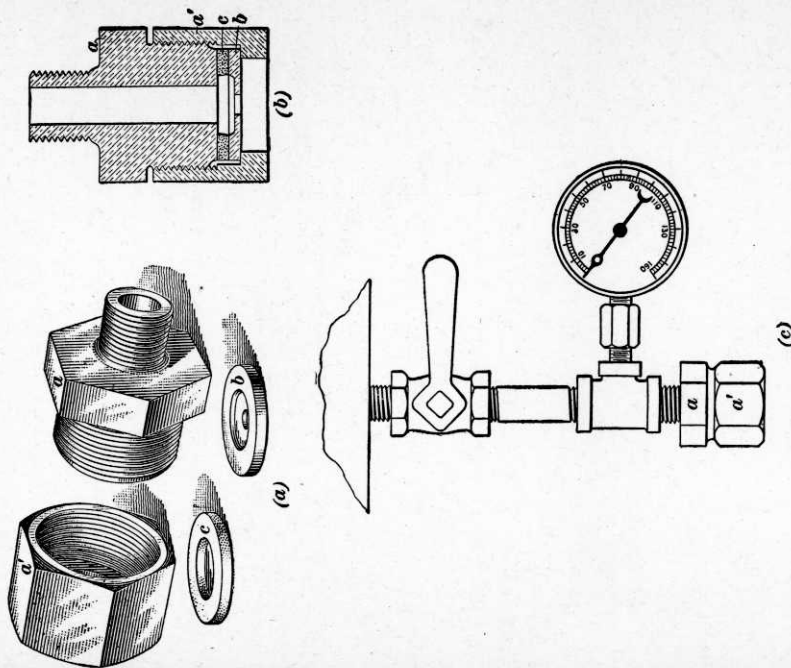
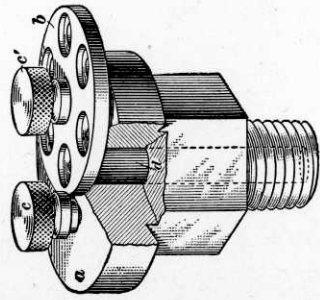

FIG. 33
FIG. 34
**93. Testing Device.**—Fig. 33 shows three views of a testing device. View (a) is a disassembled view of the disk holder, which consists of the parts *a* and *a'*, orifice disk *b*, and gasket *c*. View (b) is a sectional view of parts shown in view (a) assembled, and view (c) shows the manner in which the disk holder is connected to the main reservoir.
**95. Making the Test.**—To make the test, the testing device assembled as shown in Fig. 33 (c) is connected to the main-reservoir drain cock. The compressor should then be started, and the cut-out cock in the testing device opened. The
Fig. 34 shows a view of a testing device with a part broken away, which differs somewhat from the one illustrated in Fig. 33 as the orifices necessary to test different types of compressors are all contained in one disk.